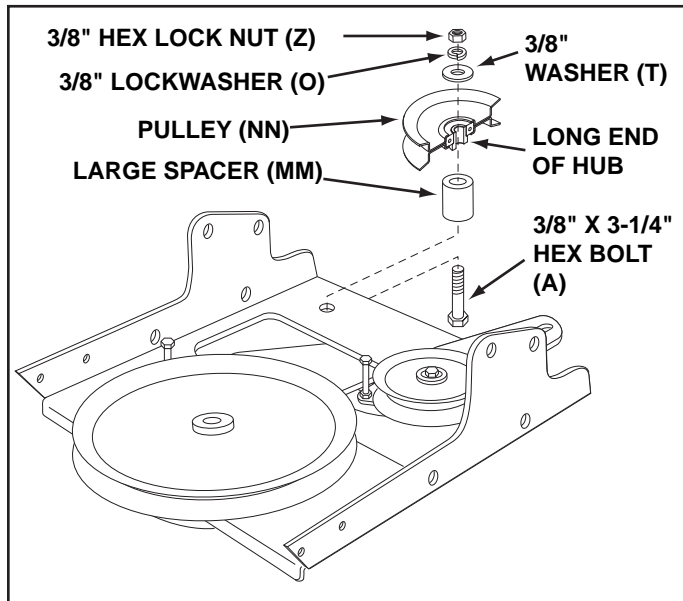

FIGURE 7
STEP 7: (SEE FIGURE 7)
- Attach the pulley (long end of hub facing down) and the large spacer (MM) to the hole shown in the clutch/idler assembly. Use a 3/8" x 3-1/4" hex bolt (A), a 3/8" washer (T), a 3/8" lock washer (O) and a 3/8" hex lock nut (Z).